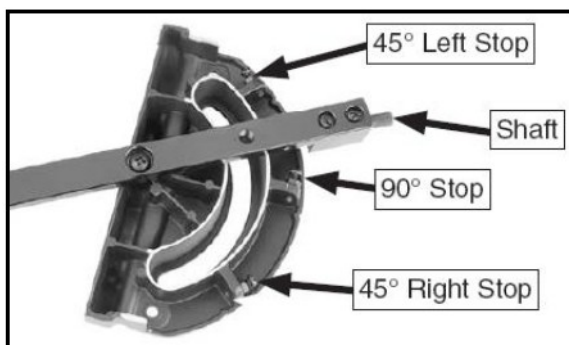

Figure 29
To achieve angles other than 90° and 45° loosen the locking handle by turning it in a counter clockwise direction, then pull the locking pin and rotate the miter head to the desired angle. Once the desired angle is set retighten the locking handle B. See figure 29.
2. With the hand wheel removed, loosen the caps screw on the pointer mounting bracket with a screw driver FIG.29 then manually align the pointer with zero on the bevel scale. Re-tighten the screw and re-attach the hand wheel.